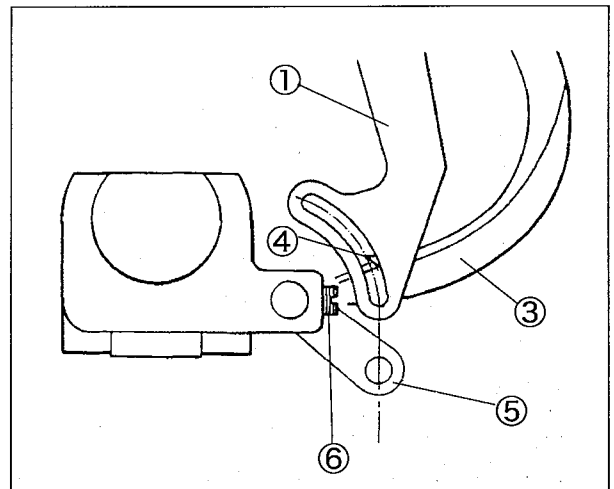

Fig. 6-12
- (1) Loosen the screw ⑥ of the top cover thread eyelet ⑤. (Fig. 6-12)
- (3) Set the eye of the top cover thread eyelet ⑤ along the extending line from the slot of the top cover thread guide ①. (Fig. 6-12)
- (4) Tighten the screw ⑥ securely. (Fig. 6-12)